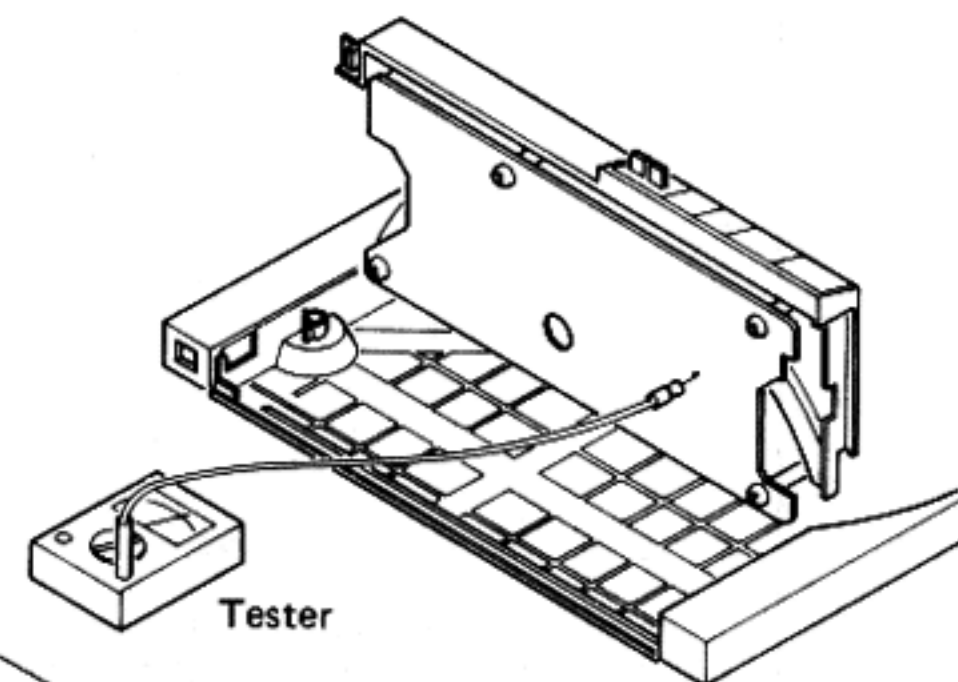

Fig. 26
- (1) Remove the turntable platter. (Refer to "How to remove turntable platter".)
- (2) Remove the front cover, and check each part from the back of P.C.B. as in Fig. 26.